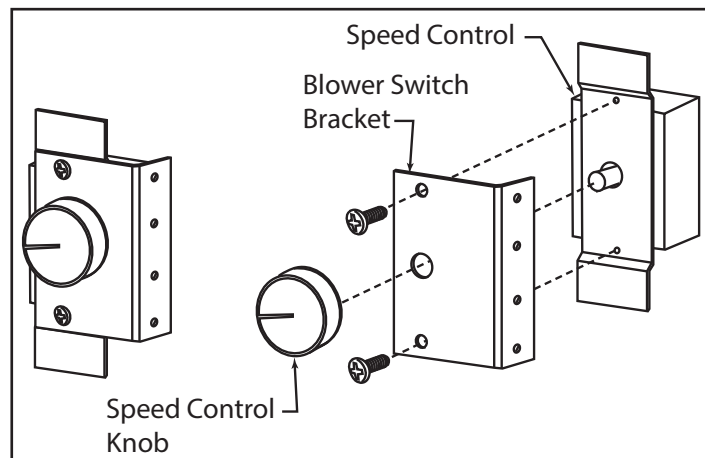

Figure 7 - Speed Control Secured to Bracket
1. Pull knob off speed control switch and attach blower switch bracket with two (2) screws supplied. Figure 7. Reinstall knob.
2. Remove the blower switch bracket. (Discarded for BUF). See Figure 7 on page 3.
2. Remove Blower Switch Bracket. See Figure 7.
2. Remove Blower Switch Bracket See Figure 7.